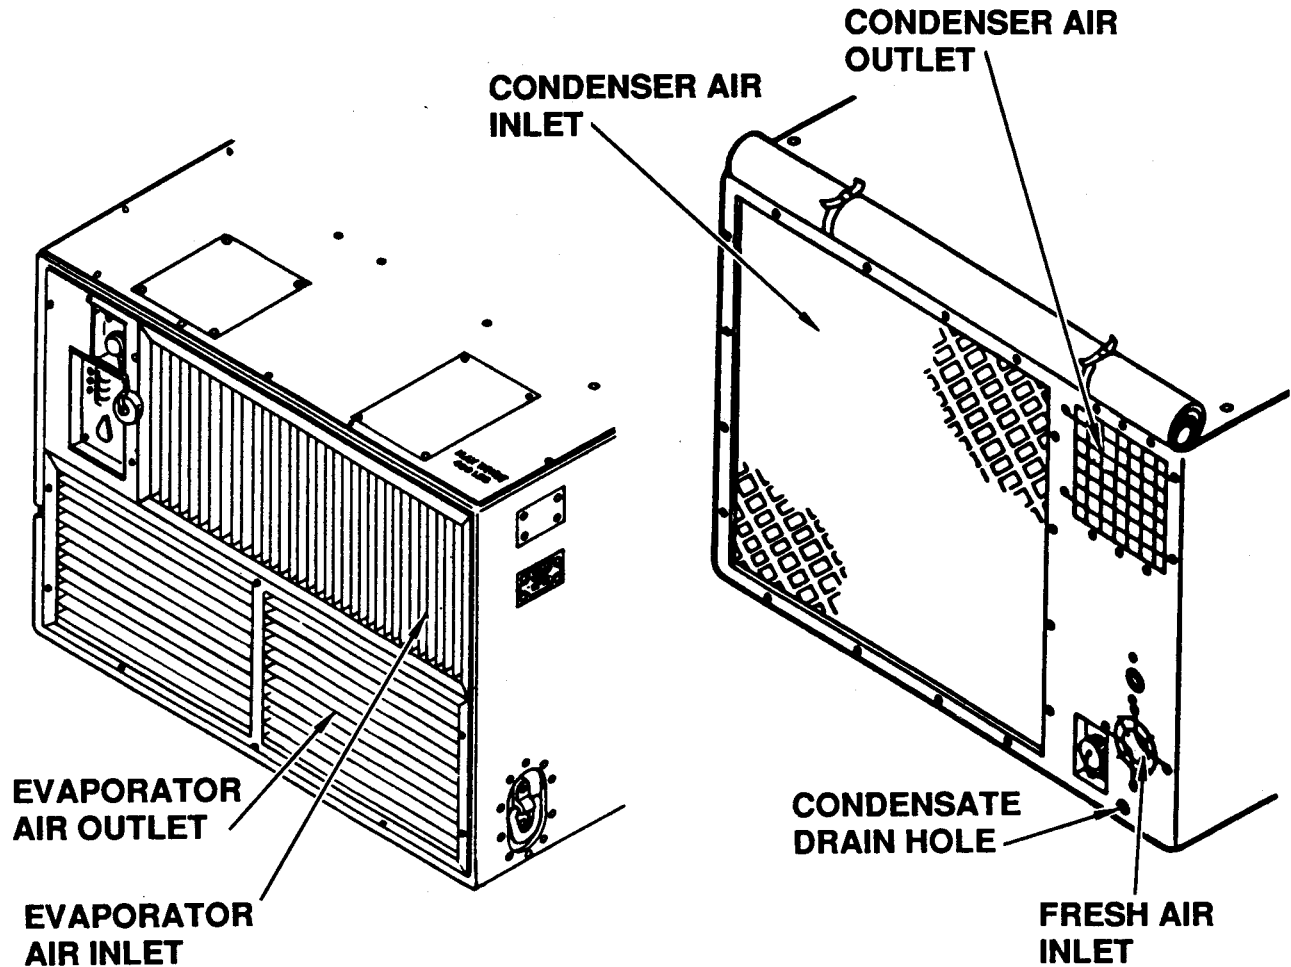

Figure 2-4. Air Openings and Drain
(3) Check that all air inlet and outlet openings are clear (fig 2-4.)